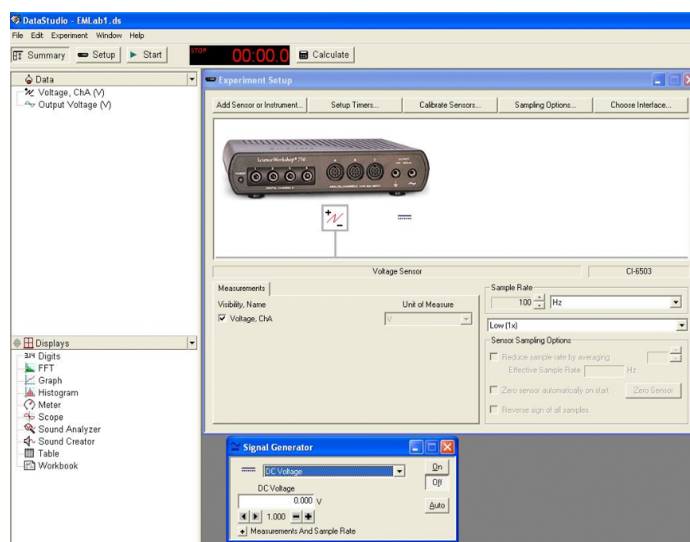

Figure 6: Opening screen of DataStudio software
- 5 Open the DataStudio software appropriate for this lab. Fig. 6 shows the opening screen of the program for this lab.